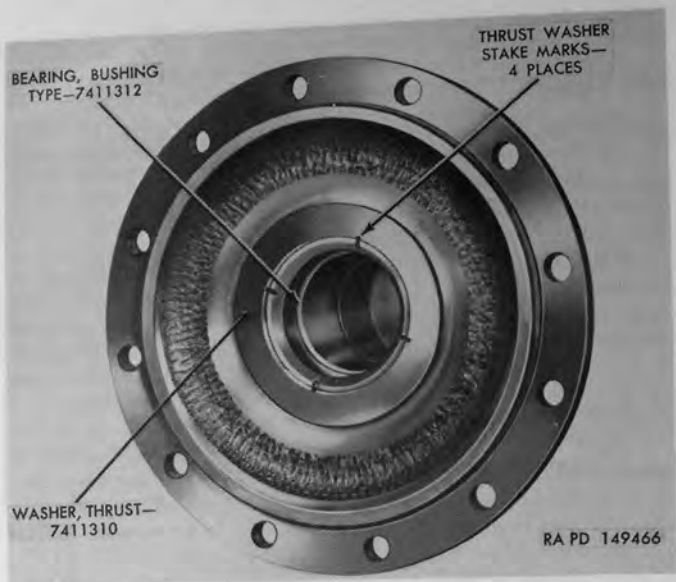

Figure 119. Steering knuckle bushing type bearing and thrust washer installed.
(1) *Removal.*—Use sharp chisel to remove metal stakes retaining thrust washer (fig. 119) to steering knuckle; then remove
- (2) *Installation.*—With steering knuckle standing on outer end on bench, position thrust washer (H) at inside flange of steering knuckle, with chamfered outer edge toward knuckle. Use block of hard wood or plastic hammer to drive thrust washer into place until fully seated. Use sharp chisel and stake steering knuckle (fig. 119) at four places to hold thrust washer. Use fine stone to remove any metal from face of thrust washer as a result of staking operation.